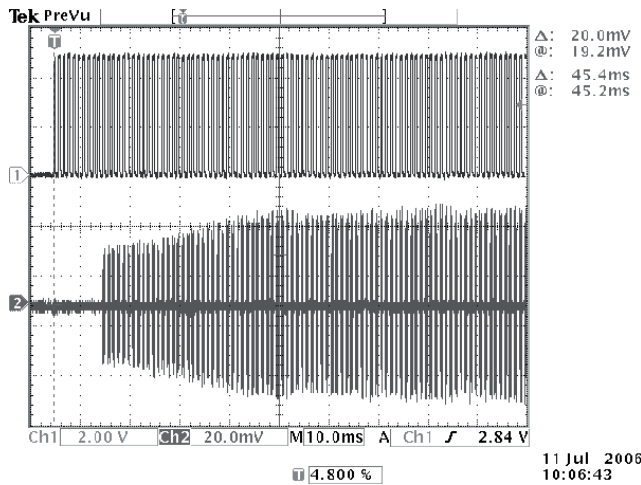

Figure 2. RF Out CAL Time Example (45ms)
**Note 6.** Output power specified into a 50 $\Omega$  equivalent load using the test circuit in Figure 2.
**Note 10.** After the release of the STDBY, the device requires an initialization time to settle the REFOSC and the internal PLL. The first MARK state (ASK HIGH) after exit from STDBY needs to be longer than the initialization time. After that, highs and lows in the ASK pin calibrates the output RF stage. See Figures 2, 3, and 4.